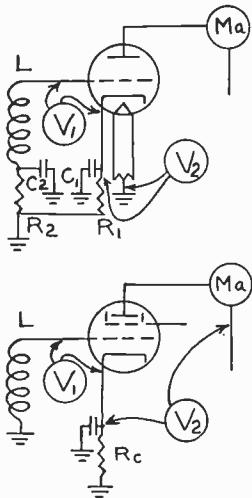

Figure 1
- 1—An "analyzer" is excusable only if it saves time—and that is the reason for the use of the tube-base plug and its connecting cord; one can get into the tube circuits without taking time to cut or solder. This is the primary business of an analyzer. See figure 1).